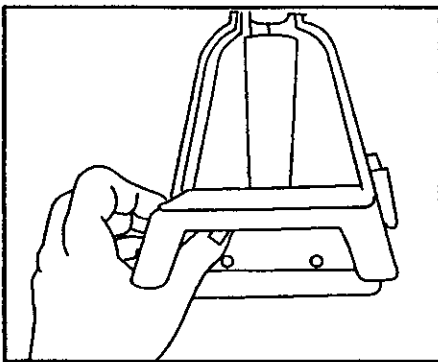

Fig. 7
2. Remove tool holder Fig. 7 by snapping out of position.